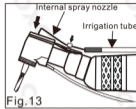

Fig.13
- 3) Put the internal spray nozzle into the head firmly (Fig.13/14).